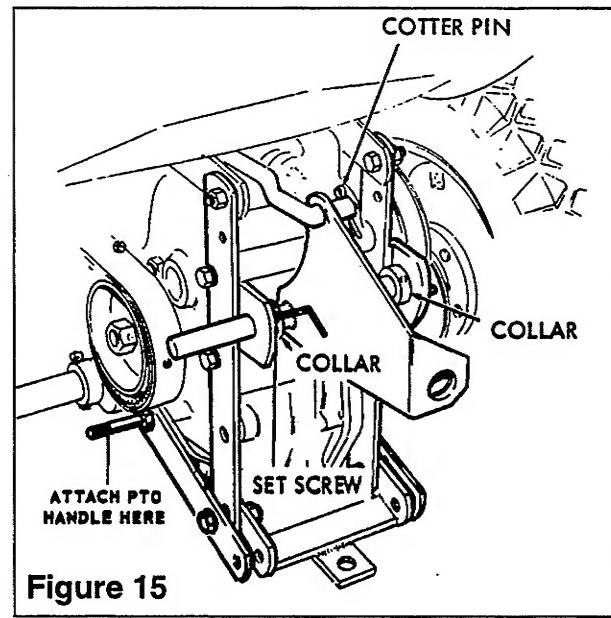

Figure 15
Engine - Service air cleaner and crankcase as recommended in engine service manual. Be sure air cleaner is maintained in clean condition. Never use oil in crankcase for more than 25 hours of operation. See Figure 15. CLEAN AIR AND CLEAN ENGINE OIL WILL GIVE LONG TROUBLE FREE OPERATION. DIRT WILL RUIN YOUR ENGINE IN A SHORT TIME. A funnel and extension are included with the tractor for use in changing oil.
3. Insert right end of lift assembly into hole in right hitch member and position lift assembly so that collar is flush against right hitch member. Position collar on left side of lift assembly so it is flush against left hitch member; tighten socket hd. set screw with Allen-Wrench. See Figure 15.
4. Connect lift assembly to Rear Lift Group. Secure with Cotter Pin. See Figure 15.